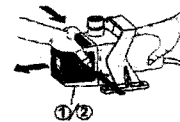

Fig. 1
- Remove the filter cover (see fig. 1) and connect suction hose and pressure hose) from the pump. The connection should be watertight.
Maintenance and cleaning (see fig. 1 and 2)